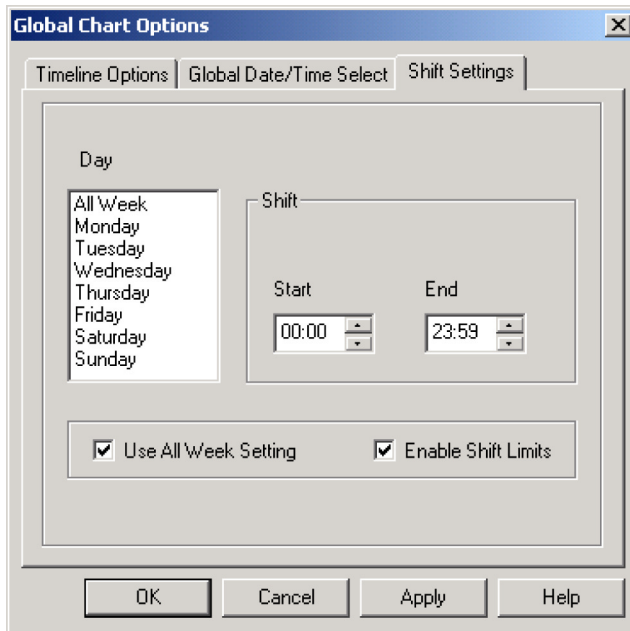

Figure 5.13 *Global Chart Options: Shift Settings tab*
- 4 Click the **Shift Settings** tab (see Figure 5.13).